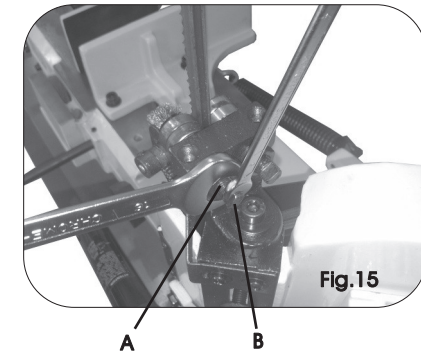

Fig.15
3. Loosen the nut (Fig.15,A) holding the eccentric shaft in position.
4. With a spanner turn the eccentric shaft (Fig.15,B) until there is a gap of about 0.03mm (0.001"), you should just be able to slide a piece of paper between the gap.